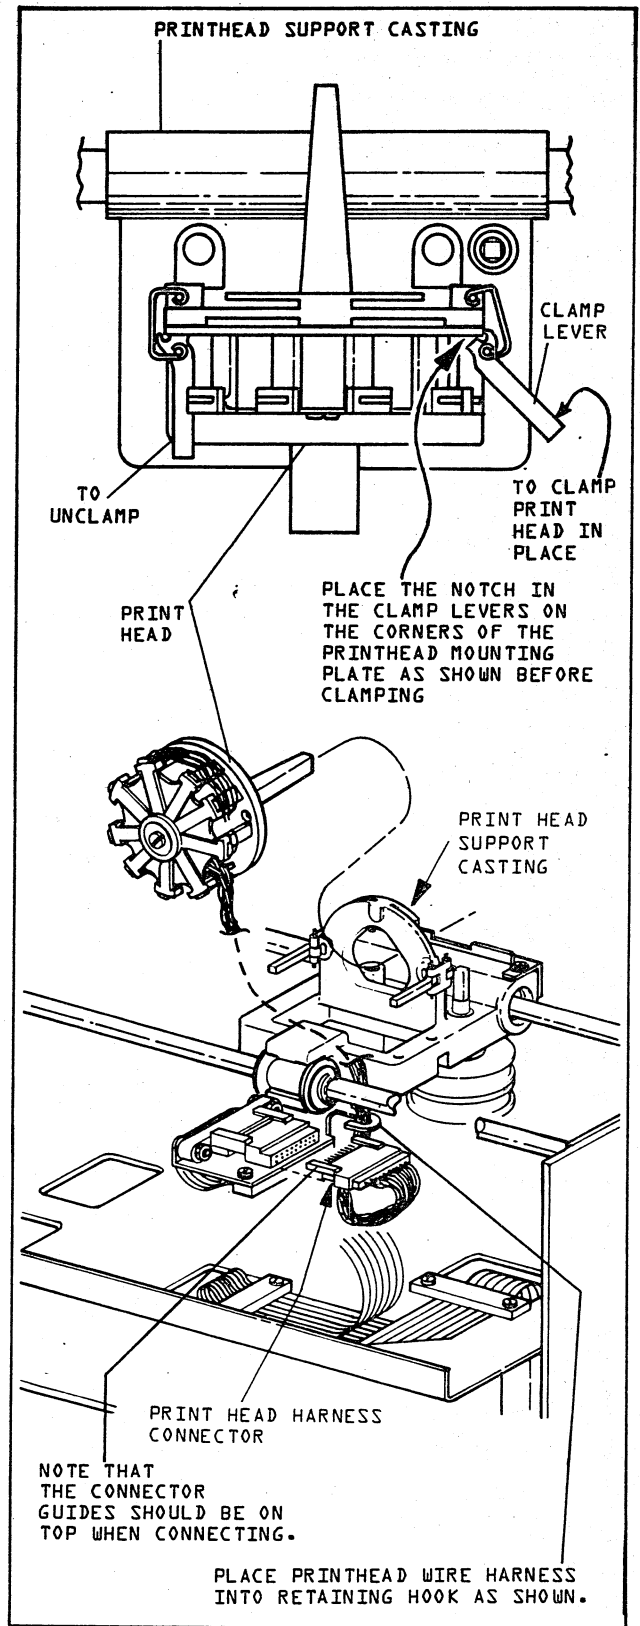

FIGURE 2-13. PRINTHEAD REPLACEMENT
5. Unclamp the printhead from the support casting by gasping the right and left hand clamping levers (one with either hand) and pulling the levers toward the sides of the printer until they are disengaged from the printhead (Figure 2-13).
6. Remove the printhead harness from the retaining hook located under the printhead support casting as shown in Figure 2-13.